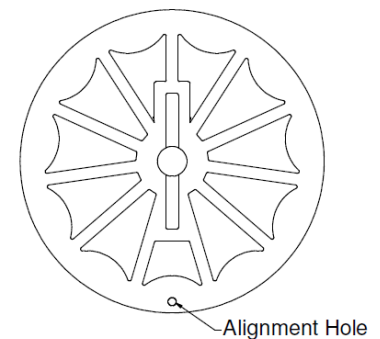

Fig. 5
- Recheck the location of the two sprockets to ensure the drive lugs are aligned with each other. Alignment can also be checked with the alignment holes on the sprocket; reference Fig. 5.